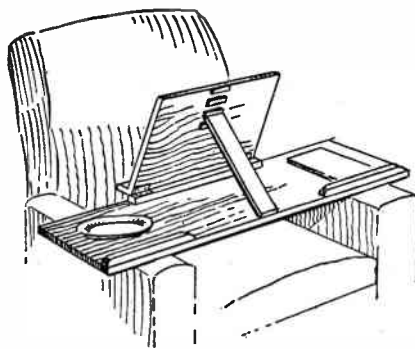

Fig. 1
**W**HY not enjoy extra comfort in your arm-chair by including the tray and book-rest illustrated in Fig. 1. The folding sloping support for book or newspaper will be found most useful and restful for reading, while tea can be taken in comfort at the same time.